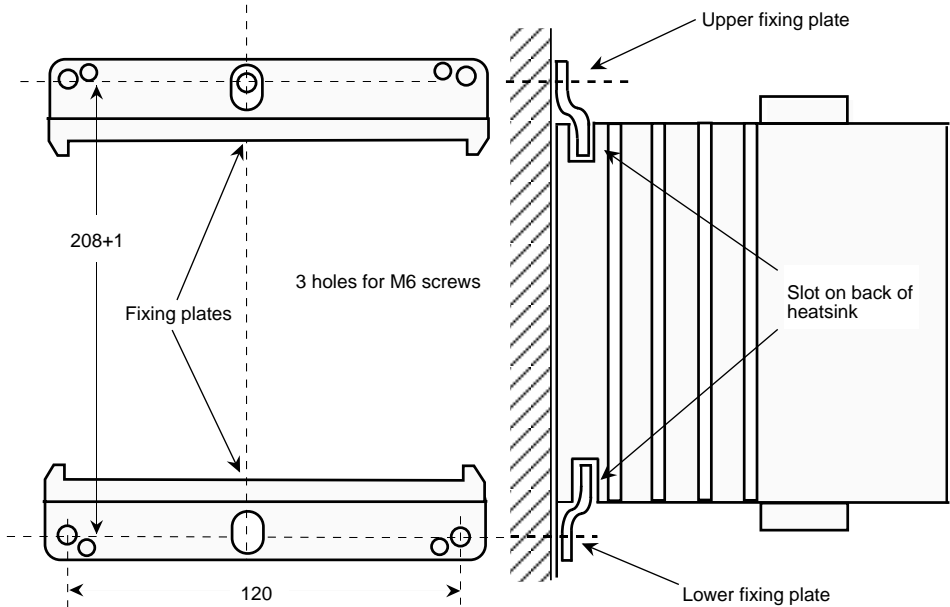

Figure 2-4 Bulkhead drilling and mounting dimensions (in mm) for the TE300 controller
- Drill three holes for M6 screws following the dimensions given in Figure 2-4